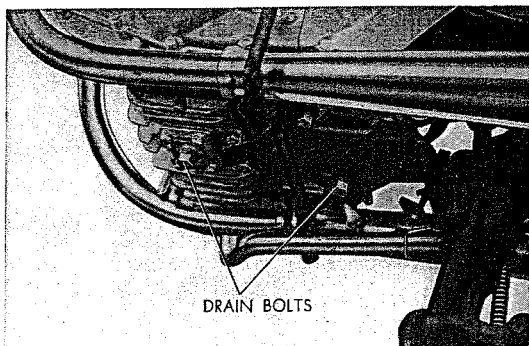

Fig. 6.41 Drain plug
b. Prop the vehicle on a stand and run the engine to warm it. Remove the drain plug and drain the oil. (Refer to Fig. 6.41)